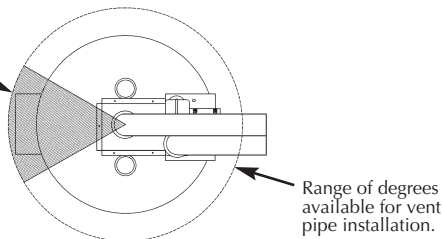

Figure 5
- The location selection must provide clearances for servicing and proper operation of the water heater. Figure 5.